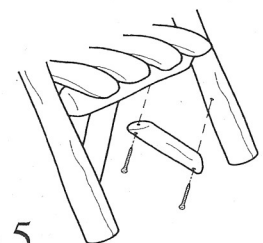

figure 5
STEP 5 Tilt chair back and screw a brace on each side of front leg to chair bottom as shown in figure 5.